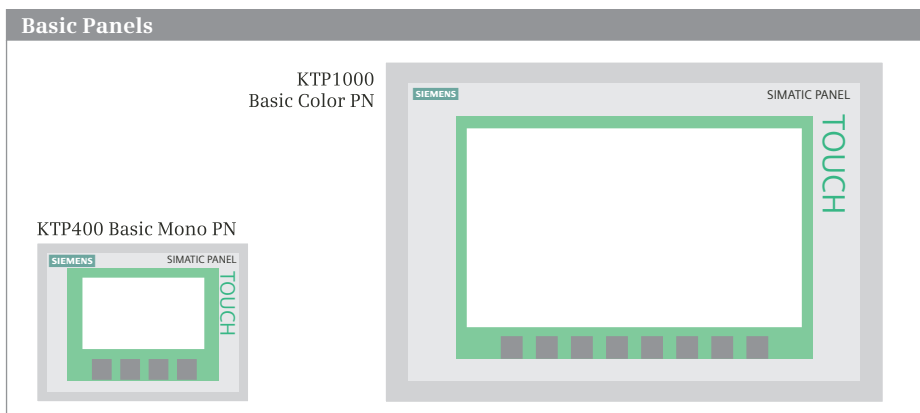

Fig. 7.3 Basic Panels KTP 400 Basic mono PN and KTP 1000 Basic color PN
Basic Panels offer basic HMI functionality for small machines and applications. They are available in size 3" as a pure Key Panel (KP), from 4" to 12" with touch screen and additional keys (KTP), and as a pure touch device in the size 15". Variants can be selected for connection to PROFINET/Ethernet or PROFIBUS DP/MPI. Fig. 7.3 shows the KTP 400 and the KTP 1000.